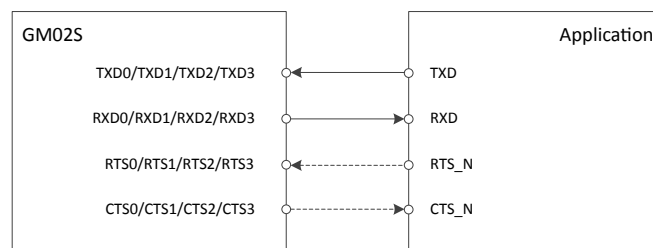

Figure 3: UART Convention and Flow Control
- CTS0, CTS1, CTS2, CTS3: Clear-To-Send signals of resp. UART0, UART1, UART2, UART3 (active low). To be connected to the CTS of the remote UART device. See Figure 3.
- RTS0, RTS1, RTS2, RTS3: Ready-To-Send signals of resp. UART0, UART1, UART2, UART3 (active low). To be connected to the RTS of the remote UART device. Tie to a 1 kΩ pull-down when flow control is not used. If connected to an external part (like a RS-232 driver), the user must insure that the part presents a low level to the GM02S. See Figure 3.
Figure 3 represents the typical implementation for hardware flow control.